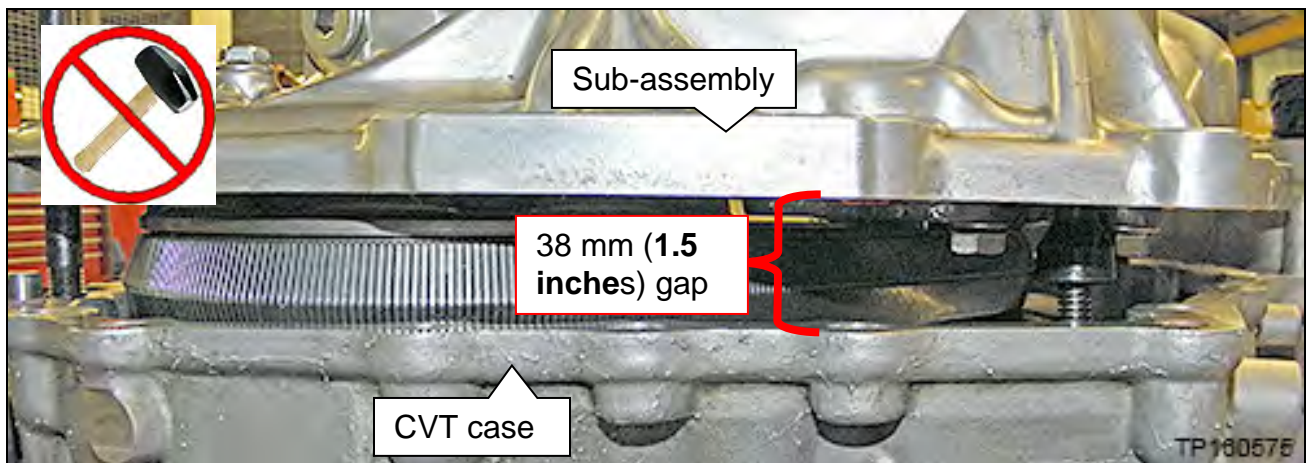

Figure 29F
- b. Lower the sub-assembly until a gap of **38 mm (1.5 inches)** is present to the CVT case (Figure 29F on page 43) and then proceed to step 22.
IMPORTANT: Perform step 22 while the sub-assembly has a **38 mm gap (1.5 inches)** to the CVT case (Figure 29F).